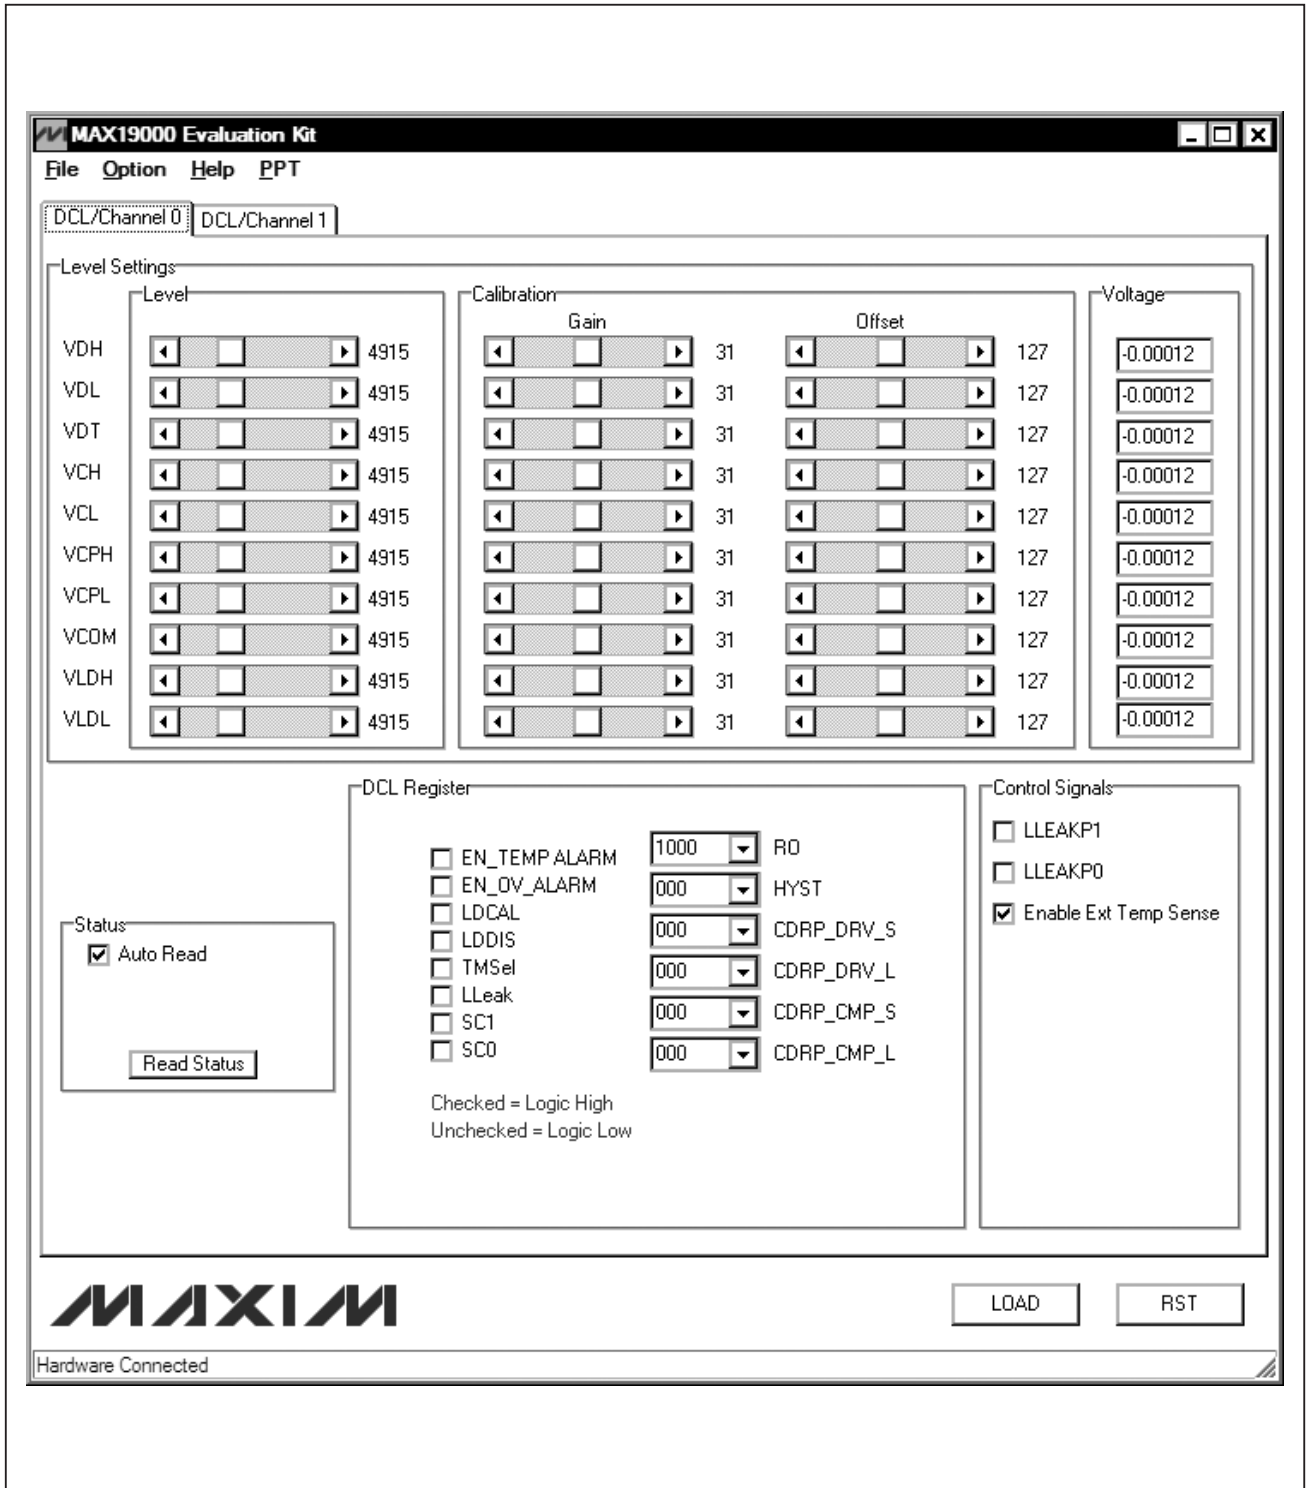

Figure 1. MAX19000 EV Kit Software Main Window (DCL/Channel 0 Tab)
- 17) Start the MAX19000 EV kit software by opening its icon in the **Start | Programs** menu. The EV kit software main window appears, as shown in Figure 1. The MAX19000 EV kit software places the MAX19000 in drive mode.
DCL/Channel 0 and **DCL/Channel 1** tab sheets (Figures 1 and 2) are identical and are for channels 0 and 1, respectively. These tab sheets contain **Level Settings** and **DCL Register** group boxes.
There are two methods for communicating with the MAX19000. The first is through the windows shown in Figures 1 and 2. The second is through the **Advanced User Interface** window. The **Advanced User Interface** window, available by selecting the **Option | Interface (Advanced User)** menu item, allows execution of serial commands manually.